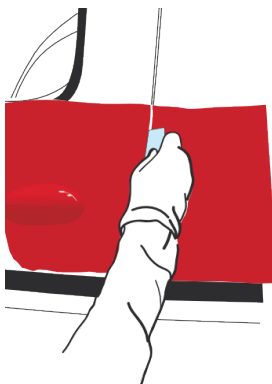

Figure 26
- › To finish, run the squeegee over the cut. Incline the squeegee towards the thin edge. (FIG. 26)